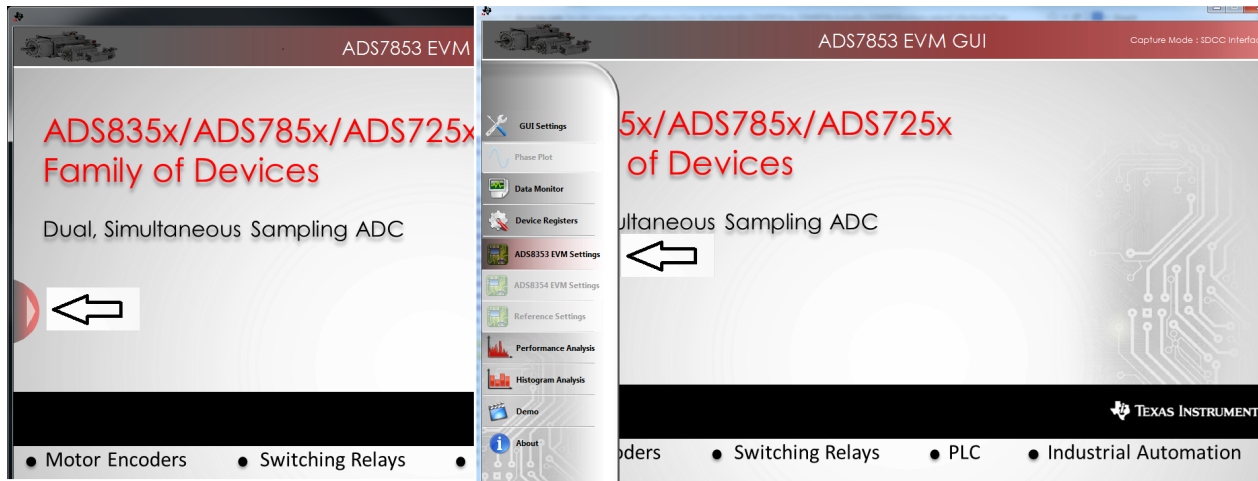

Figure 18. Open the ADSxx53 EVM Settings Page
1. Load the ADSxx53 EVM settings page in the GUI. Hover the cursor over the red arrow at the left-center side of the GUI screen; a menu with different GUI pages appears. Click on *ADSxx53 EVM Settings*, as shown in Figure 18.